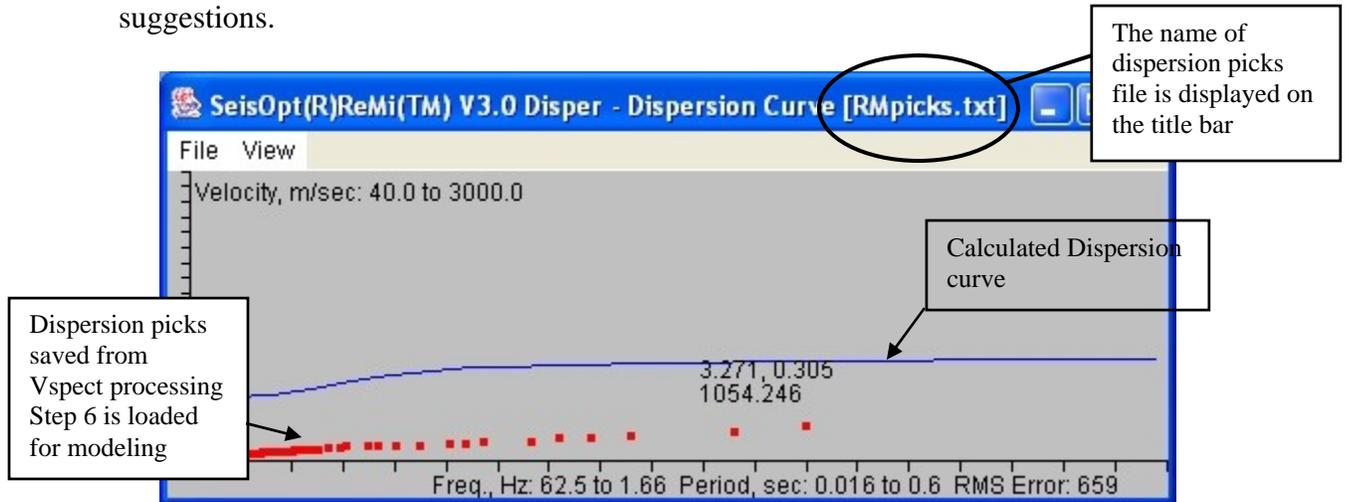

Figure 52: The dispersion picks are displayed as red filled squares in the 'Dispersion Curve' window.
3. The dispersion picks will now be displayed as red filled squares in the ‘Dispersion Curve’ window (Figure 52).